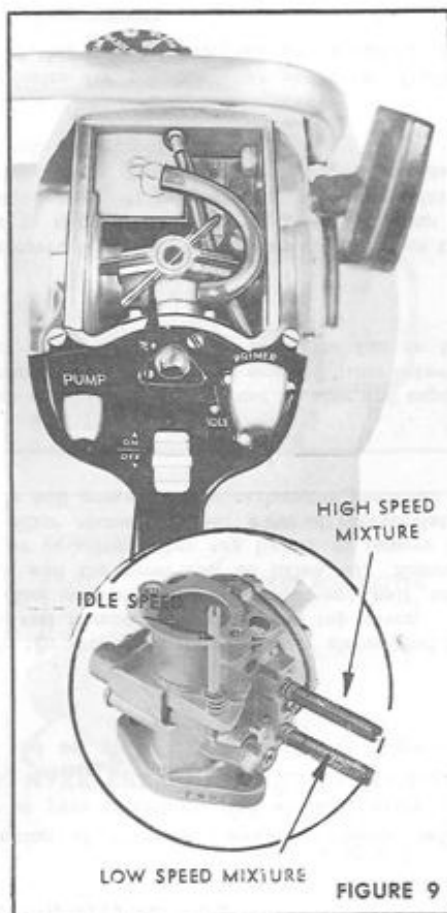

FIGURE 9
2. The low speed adjustment needle, marked L on side of carburetor body, is the lower of two adjustment needles located on the right side of motor. Fig. 9. This controls the fuel mixture at idling speed. To make any slight adjustment, it opens by turning slightly to the left and closes by turning to the right. For a complete adjustment of this control, shut off by turning to the right until seated. Do not close too tightly. Then open $\frac{3}{4}$ of a turn. This may vary slightly according to the individual chain saw and operation needs.
3. The high speed adjustment needle, marked H on the side of the carburetor body, is the upper of the two adjustment needles located on the right side of the motor, Fig. 9, and controls the fuel mixture when throttle is fully open. To adjust, turn slightly to left to open, slightly to the right to close. To completely readjust, turn the adjustment needle completely to the right until it seats, then open $\frac{3}{4}$ of a turn. Do not close too tightly. Fig. 9.
7. **CARBURETOR:** As mentioned on Page 4 and 5 do not change the carburetor needle settings unnecessarily. However, under preventive maintenance, inspection and cleaning of the pick-up head and line are necessary in case foreign particles may have entered the fuel mixture. It is also recommended that the cover of the fuel filter box be removed and the fuel filter felt cleaned or replaced. (Figure 9). Should the carburetor, for any reason, need a complete overhaul, this should be performed by your servicing dealer.